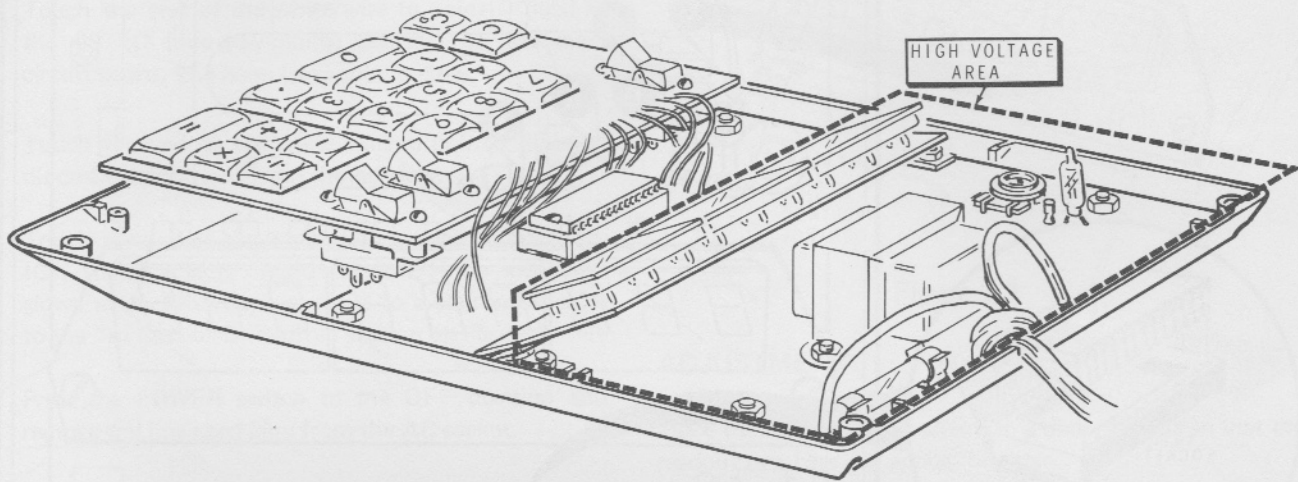

Figure 1-1
**CAUTION:** Line voltage is present on the main circuit board when the line cord is plugged into an AC outlet. High voltage is also present when the Power switch is turned off. Be careful that you do not contact this voltage or an electrical shock will result. See Figure 1-1.